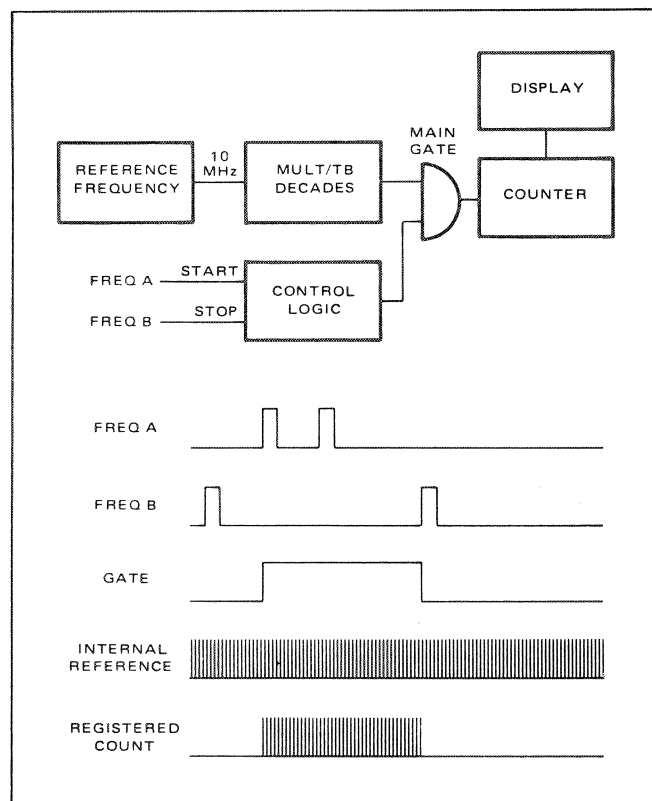

Figure 4.8 - Time Interval Mode
4.30 The Time Interval mode of operation allows measurement of the time between two electrical events to a maximum resolution of 100 nanoseconds (figure 4.8). The first event (start) is connected to channel A and opens the gate. The second event (stop) is connected to channel B and closes the gate. These signals control the main gate through the control logic. Slope and trigger level controls on the front panel allow variable trigger levels on the + or - slope of the input waveforms. Pulses from the 10 MHz reference oscillator are routed to the multiplier/timebase decades and to the main gate.